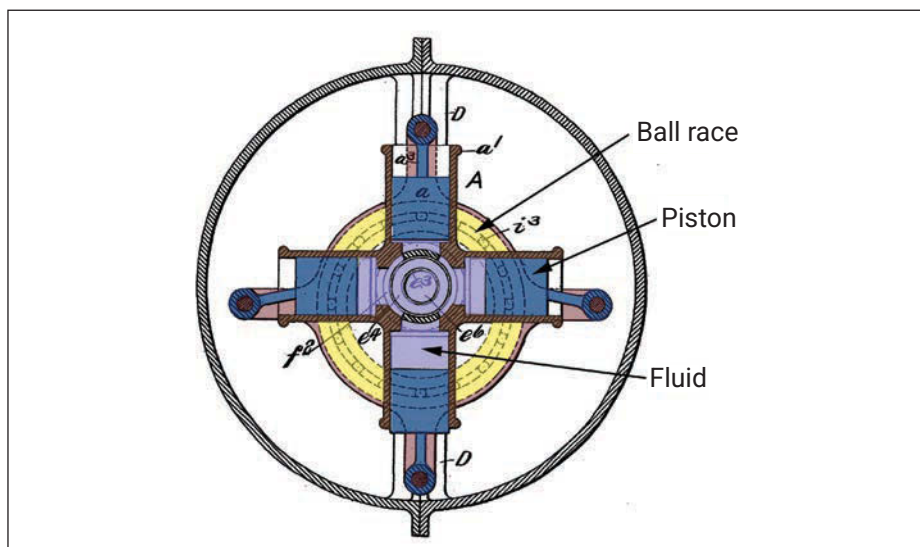

Fig 10: Section across the Hele-Shaw hydraulic transmission apparatus shown in fig. 9 at the location indicated by the blue arrows, adapted from ref. 13.
Fig 9: Section through an example of the Hele-Shaw hydraulic transmission apparatus. Blue arrows indicate the position of the section drawn in fig. 10, adapted from ref. 13.)
zero and maximum by changing the offset of the ring which governed the movement of the piston rods relative to the central axis of the cylinders (see **fig. 10**). This is the same as in Mr Rigg's hydraulic motor.